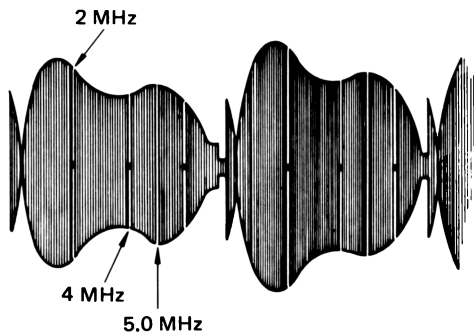

Fig. 3-11
3. Adjust C13, C14 to get the resonance point 5.0 MHz (marker) as shown Fig. 3-11.